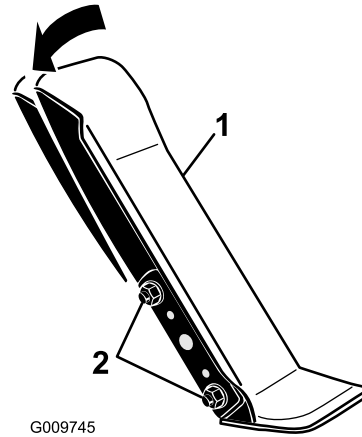

Figure 56
- Loosen the 2 nuts and bolts securing the left side of the traction pedal to the bracket (Figure 56).
- Mounting nuts and bolts (2)
- Pivot the pedal to the desired operating angle and tighten the nuts (Figure 56).